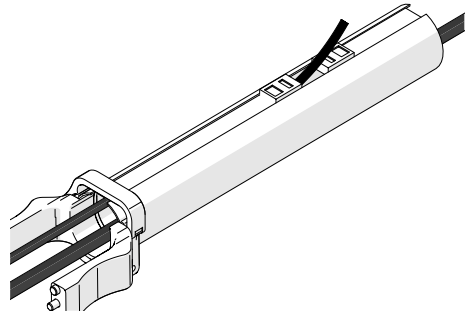

Fig. 142 - Flexible routing
4. When necessary, the two zippers may be opened to allow any cables to be routed out of the tube. (Fig. 142)